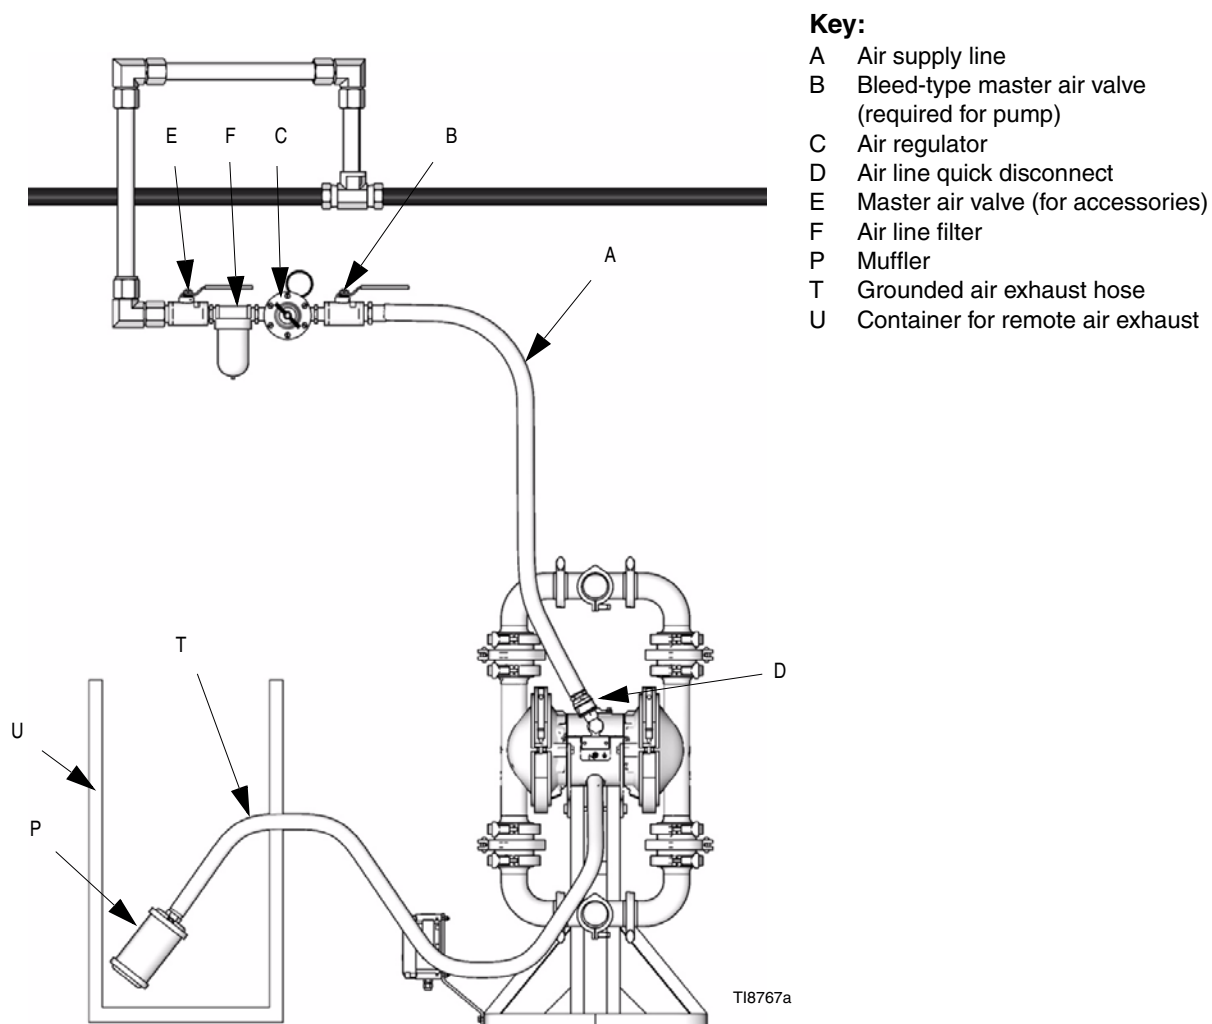

FIG. 5 Venting Exhaust Air
Diaphragm failure can cause the fluid being pumped to exhaust with the air. Place an appropriate container at the end of the air exhaust line to catch the fluid. See FIG. 5.
1. Remove the muffer (P) from the pump air exhaust port. See FIG. 5.
2. Install a grounded air exhaust hose (T) and connect the muffer (P) to the other end of the hose. The minimum size for the air exhaust hose is 3/4 in. (19 mm) ID. If a hose longer than 15 ft (4.57 m) is required, use a larger diameter hose. Avoid sharp bends or kinks in the hose.
3. Place a grounded container (U) at the end of the air exhaust line to catch fluid in case of a diaphragm rupture. See FIG. 5.